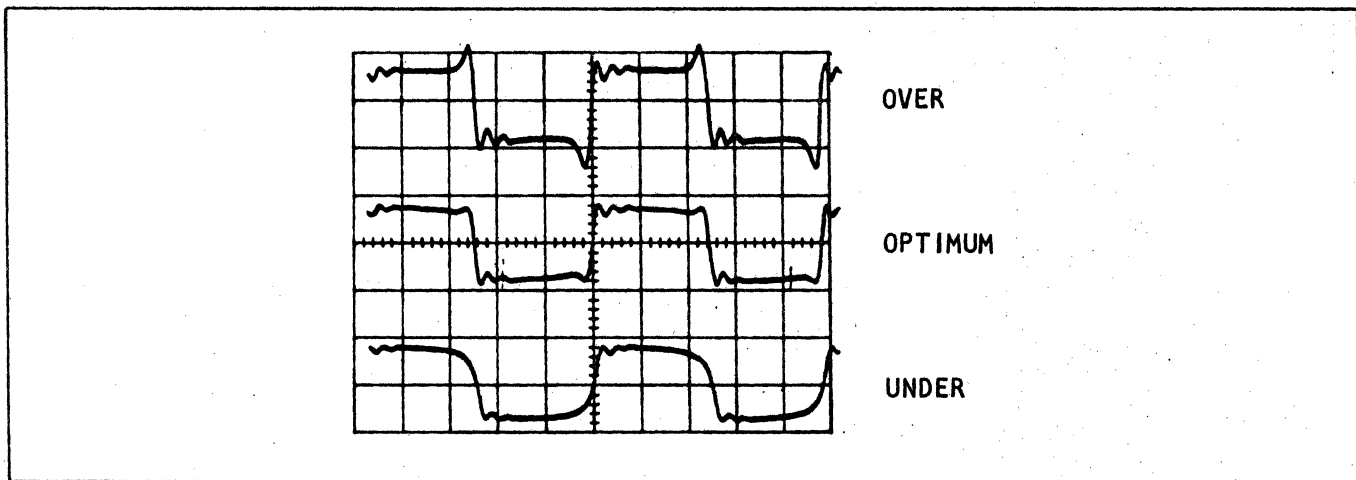

Figure 5-4. Phase Adjustment
d. Refer to figure 5-4 and adjust R67, the phase adjustment control on the reproduce amplifier, for approximately 10% pre-ring at the trailing edge of the square wave. Avoid a setting of R67 which affects the leading edge of the square wave.